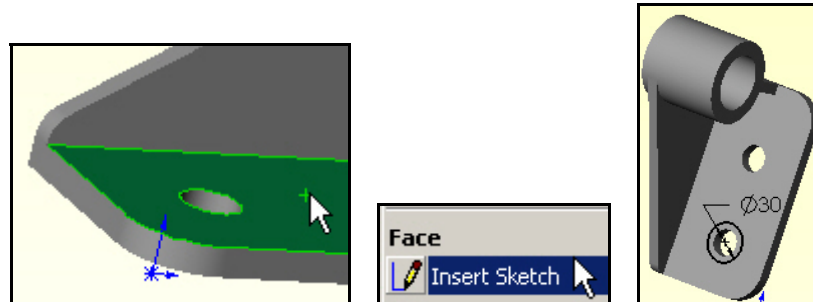

Figure 5 Constructing the first circle to split the surface
3. Place the cursor on the top hole edge to “wake up” the center point. Then draw a larger circle on the surface. Set its diameter to 30 mm and hit **OK** (Figure 5). That does not change the surface; it just adds a circle to it.